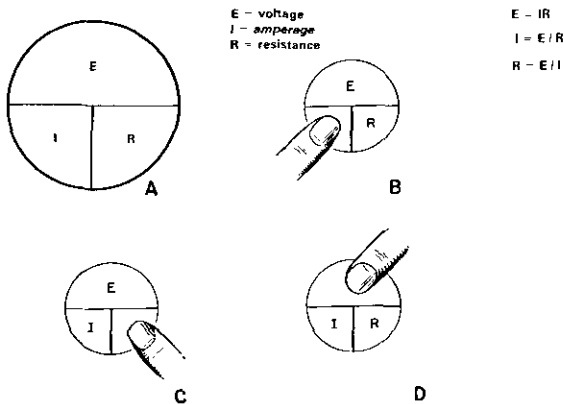

Figure 5 - Memory Aid for Learning Ohm's Law
**Memory Method.** The formulas for solving problems involving Ohm's Law must be learned. Do not bypass these formulas—they must be understood and remembered. A simple aid to memorizing the Ohm's Law formulas is shown in Figure 5. Part A of this figure shows a circle with the three symbols arranged in separate spaces. If any one of the symbols is covered, the arrangement of the other two symbols forms the right-hand side of the formula for determining the value of the covered symbol. Thus, if a finger is placed
over the I (B of Figure 5), E/R remains, and indicates that I is equal to E/R. If R is covered (C of Figure 5), E/I remains, and indicates that R equals E/I. In the same way, if E is covered (D of Figure 5), IR remains, and indicates that E equals IR.